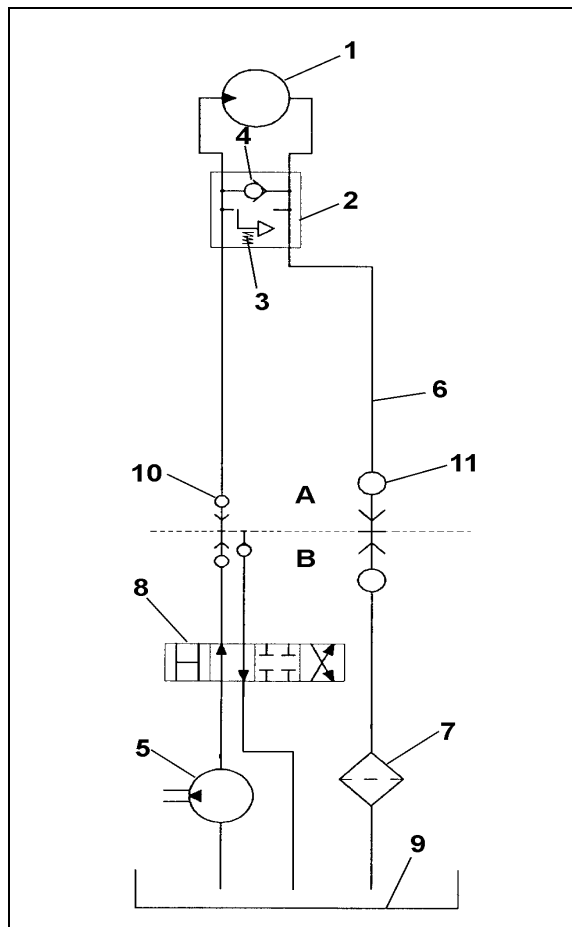

Fig. 34
- **Do not create other connections than shown in the circuit diagram (Fig. 34).**
On the pressure side the blower fan hydrostatic motor (Fig. 34/1) may be connected to either a single or to a double acting control spool valve (Fig. 34/8).
In order not to damage the hydrostatic motor, the oil pressure in the return flow (Fig. 34/6) must not exceed 10 bar. Therefore, never connect the return flow to the control spool valve (Fig. 34/8) but to a non-pressurised return flow with a large plug coupling (included in the scope of delivery) (Fig. 34/11). Should it become necessary to install a new return flow tubing, use only tubes DN16, e.g. Ø20 x 2,0 mm and short return flow ways.
The hydraulic oil must be guided through an oil filter (Fig. 34/7) at any place of choice.
The check valve (Fig. 34/4) allows the blower fan to run after as soon as the control spool valve (Fig. 34/8) has been shut off.
Ensure that the hydraulic oil does not get too hot. If large amounts of oil are fed into small oil tanks the hydraulic oil will heat up. The capacity of the oil tank (Fig. 34/9) should at least have the double of the oil delivery amount. If the oil gets too hot, the installation of an oil cooler on the tractor by a professional workshop is necessary.
Particles of dirt may damage the blower fan hydrostatic motor (Fig. 34/1) and the pressure relief valve (Fig. 34/3). For this reason, always keep clean the coupling parts when connecting the blower fan hydrostatic motor to the tractor's hydraulic to avoid the hydraulic oil becoming dirty.